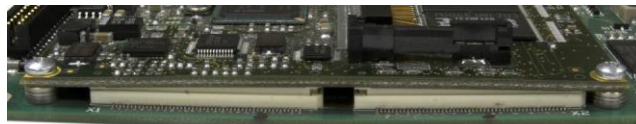

Figure 4-47: ETX Board Connectors Improperly Seated
- Note that simply installing the ETX board mounting screws will not seat the connectors properly – see Figure 4-47. Each connector must be pressed into place.